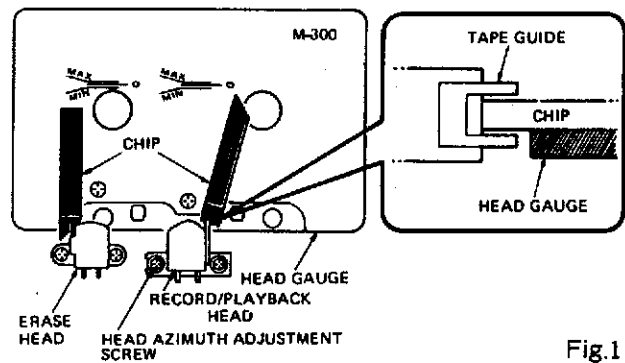

Fig.1
- Set the unit in the playback mode and place the adjustment chip on the head gauge as shown in the Fig. 1.